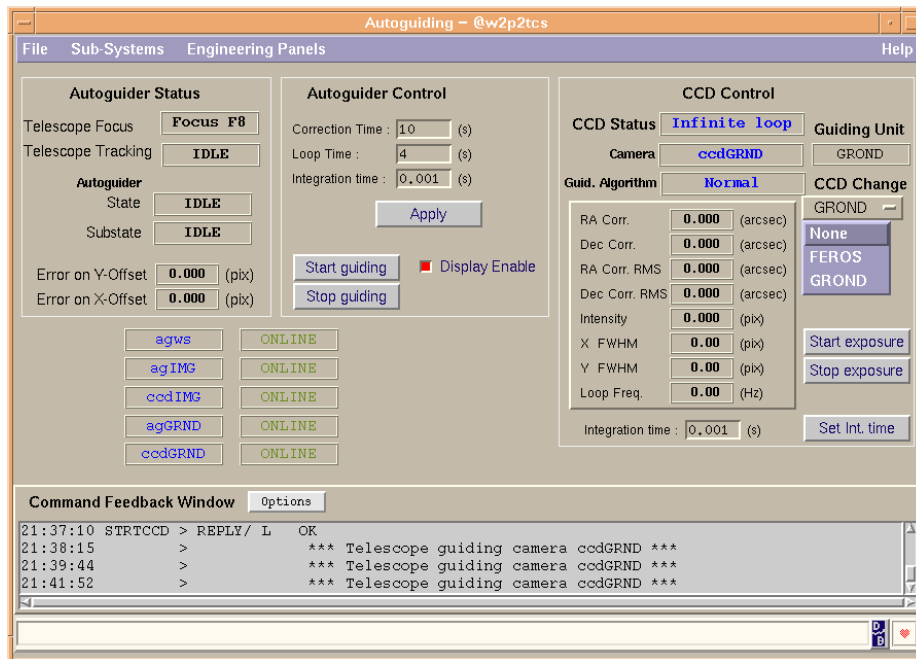

Figure 2.5: Switching between GROND and FEROS guide camera.
- i. select `GROND` below `CCD` change (see Fig. 2.5)
- i. select FEROS below CCD change (see Fig. 2.5)
Check that the GROND and FEROS guide cameras work by switching between them on the AG window (see Fig. 2.5). The switching should set the camera in CCD status Infinite loop. It may be necessary to click on Start exposure after switching to obtain this status. If status is Fail, the camera must be restarted (see Sect. 9.2).